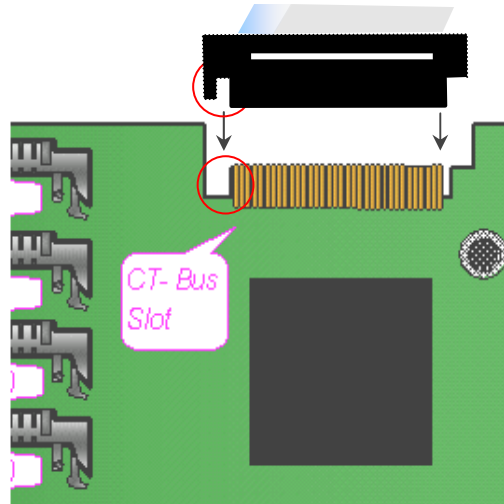

Figure 2-18 Connection of H.100 Bus
- ① See Figure 2-18 for correct insertion. Do not twist or insert in the opposite direction.